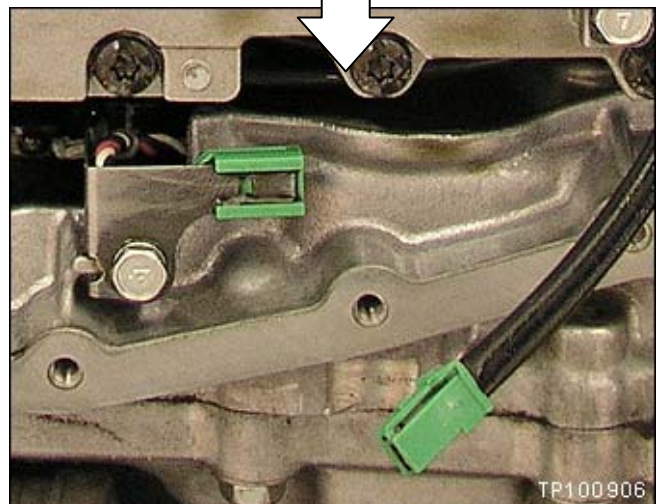

Figure 4
7. Disconnect the harness connector shown in Figure 4.